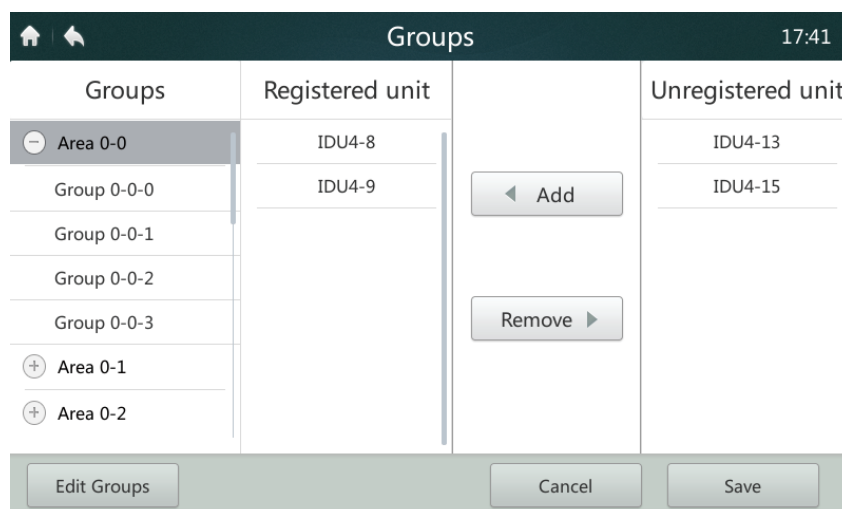

Figure 40 Homepage 2 of Group View page
1. The user needs first to create groups. After groups are created, the group view page is displayed, as shown in Figure 40.
2. Tap to select the group on the left for adding or deleting IDUs, as shown in Figure 40.
3. Tap to select a group on the right ungrouped device list, as shown in Figure 40. Tap the "Add" button to add it to the selected group. The device will be displayed in the grouped device list.